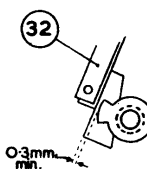

Fig. 13
- (j) The distance between the turntable cam and the nylon block on lever 32 should be a minimum of 0.3 mm. with the switch lever in the "off" position (see Fig. 13).